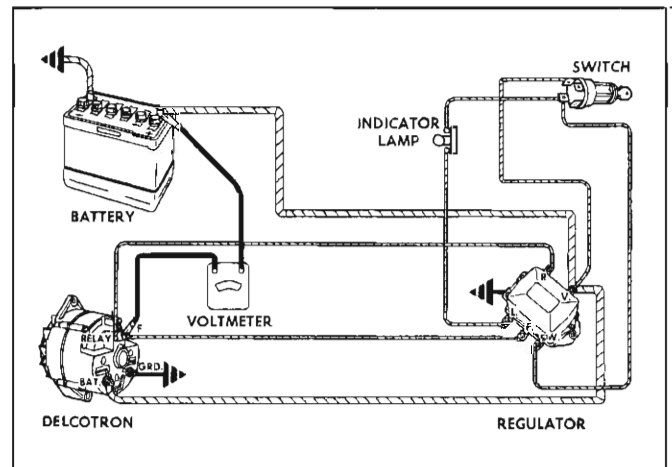

Fig. 6—Checking Circuit Resistance
4. **EXCESSIVE CIRCUIT RESISTANCE** - to check for excessive circuit resistance, connect a voltmeter from the insulated battery post to the field terminal on the generator (fig. 6). Turn on switch, but do not start engine.